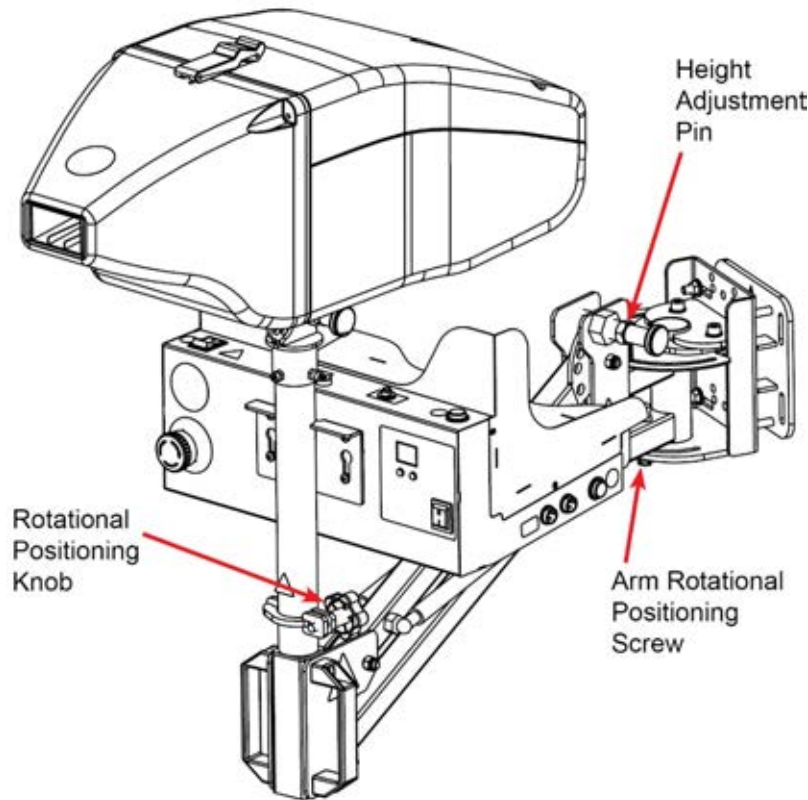

Figure 20 Height-Adjustable Swivel Arm Positioning
1. Turn the Rotational Positioning Knob counterclockwise to loosen the **Dispenser** stand positioner (refer to Figure 20).
1. Turn the Arm Rotational Positioning Screw counterclockwise to loosen the Dispenser arm (refer to Figure 20).
4. Pull the Height Adjustment Pin away from the housing to unlock it from the plate (refer to Figure 20).